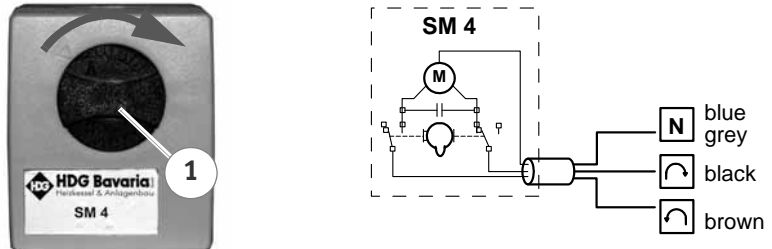

Figure 7/1 - Switch servo motor
The switch (1) of the servo motor has to be moved in the position as shown in figure 7/1.